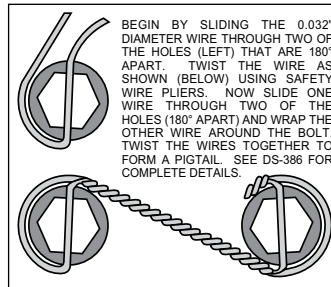

Figure 4. Safety Wire Diagram
- Once the caliper positions have been determined, remove both the service (16) and EPB (22) calipers, leaving both brackets in place on the backing plate. For the EPB bracket, remove the bolts one at a time, apply red Loctite® 271 to the threads, and torque to 35 ft-lb. The service caliper bracket will be final installed after shimming is determined.
- Orient the rotor (12) and the hat (13) as shown in Figure 1 and Photo 6. Attach rotor to hat using bolts (14) and washers (15). Apply red Loctite® 271 to the bolt threads and torque to 155 in-lb using a criss-cross pattern. For an added measure of security, the bolts may be safety wired using standard 0.032 inch diameter stainless steel safety wire as shown in Figure 4. Please refer to Wilwood's data sheet DS-386 (available at [www.wilwood.com/Pdf/DataSheets/ds386.pdf](http://www.wilwood.com/Pdf/DataSheets/ds386.pdf)) for complete safety wire installation instructions.
- Slide the rotor registration adapter (11) onto the register on the axle flange with the smaller O.D. facing toward the rotor/hat (12 and 13), Photo 7.